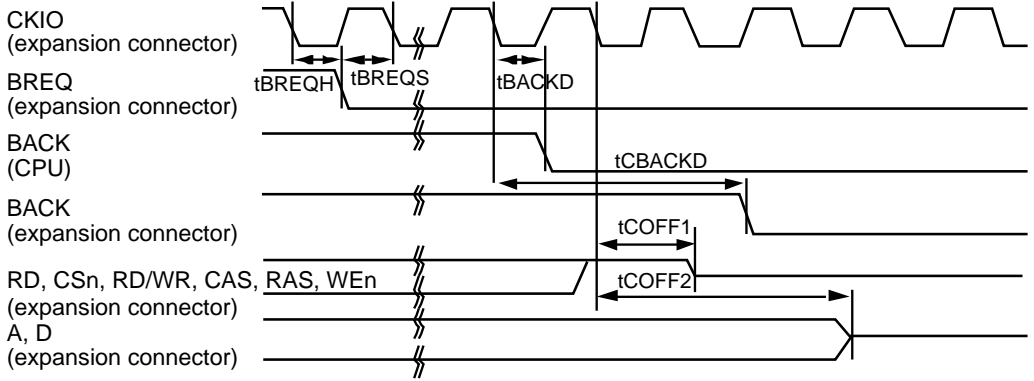
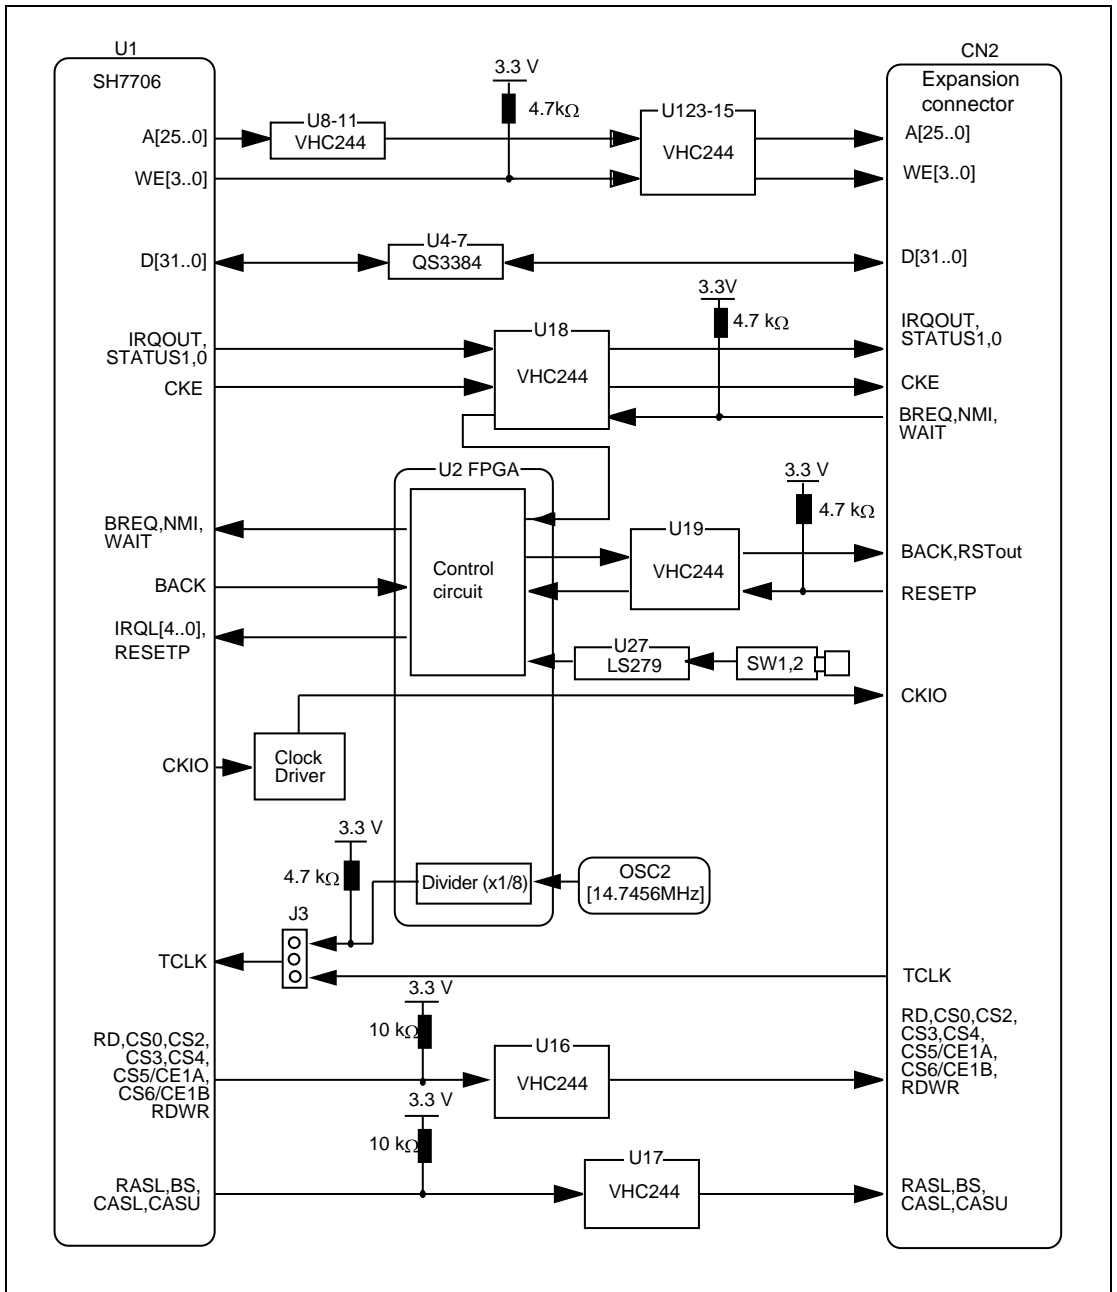

Figure 5.8 Bus Release Timing (1)
Figure 5.11 Configuration of User Expansion Board Interface Circuit (CN2)
(2) A[25:0]: See figure 5.11.
(3) RSTOUT: A low-level pulse is output when the CPU is reset (at power on, when the manual reset switch is pressed, or when the reset signal is input from the expansion connector).
(4) BACK: See figures 5.8, 5.9, 5.11 and 5.12.
(5) BREQ: See figures 5.8, 5.9, 5.11 and 5.12.
(6) TCLK: Clock input for the timer. Jumper J3 selects either the CPU board clock or clock input from the expansion connector.
(7) NMI: Invalid and not reserved during monitor program execution.
(8) WAIT: The result of ORing the WAIT signals from the CPU board resource area 0 and area 6 (PCMCIA space) on access is input to the CPU.
(9) CKIO: Output only. It is recommended that a terminal resistor is connected to the expansion board.